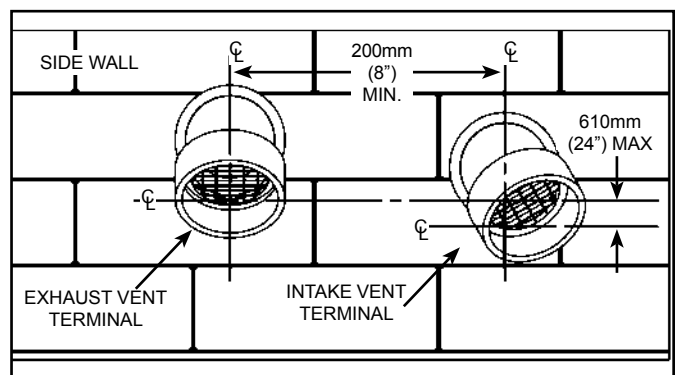

Figure 21.
Important: When terminating the vent on a side wall, the following specifications pertaining to terminal location must be followed (see Figure 21).
4. To avoid exhaust recirculation, the air intake terminal may be rotated away from the exhaust vent terminal (see Figure 21).